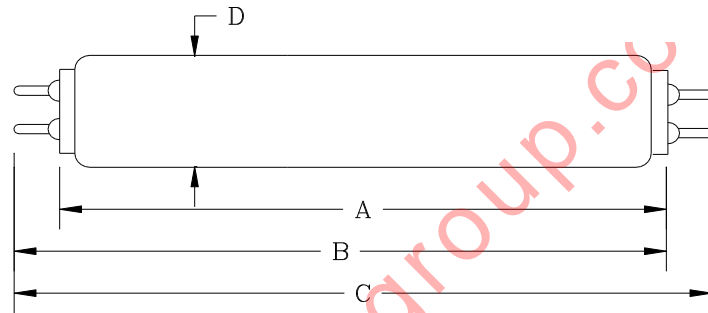

Figure 1 - Lamps with G5, G13, G20 bipin bases
- a) G5, G13, G20 bipin bases, see Figure 1